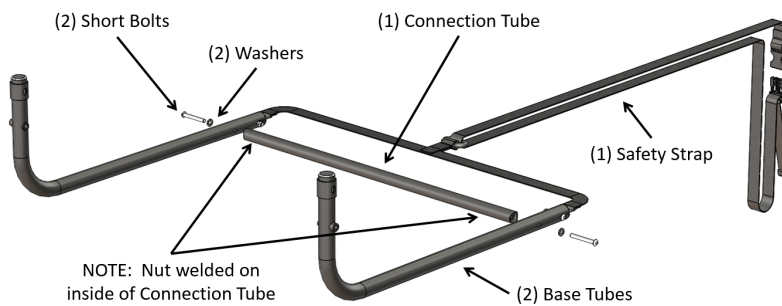

FIGURE 2
2. Use the ALLEN WRENCH to attach the CONNECTION TUBE to the BASE TUBES using the SHORT BOLTS and WASHERS as shown in Figure 2. **NOTE:** Nuts are welded on the inside of CONNECTION TUBE.